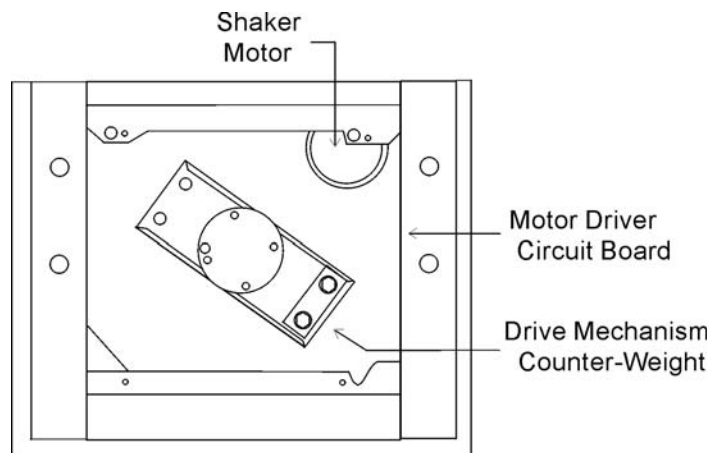

Figure 4-3. Behind Cover Plate
2. Remove the screws and lift off the cover plate. The mechanism will be accessible as shown in Figure 4-3.